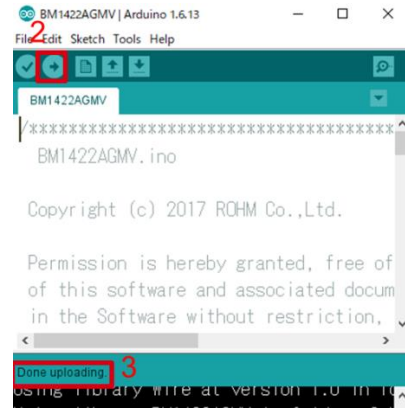

Figure 5. Uploading
3. Wait for the message "Done uploading" (Figure 5)
2. Write the program by pressing right arrow button for upload (Figure 5)